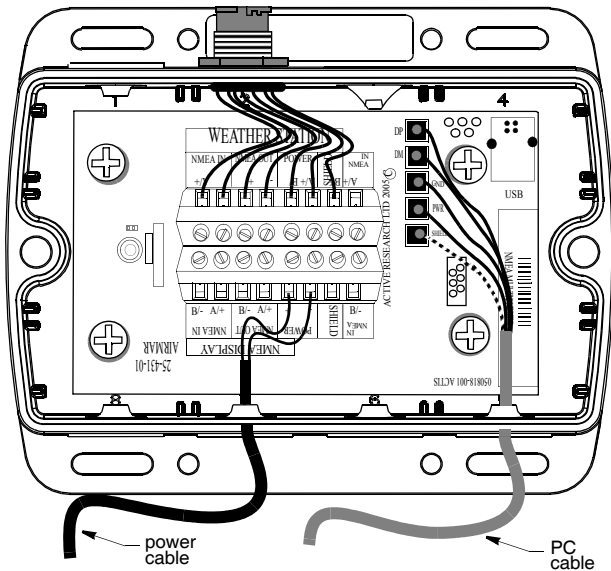

Figure 8. Inside a Combiner
3. Remove the cover of the Combiner to expose the terminals inside (see Figure 8).